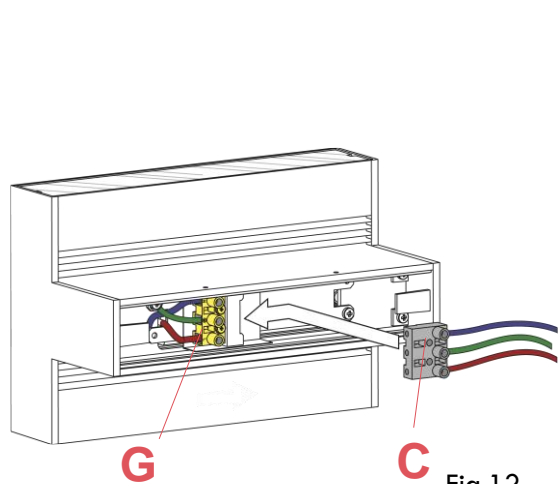

Fig.12
Connect the female connector (C) to the male connector (G).(Fig.12)